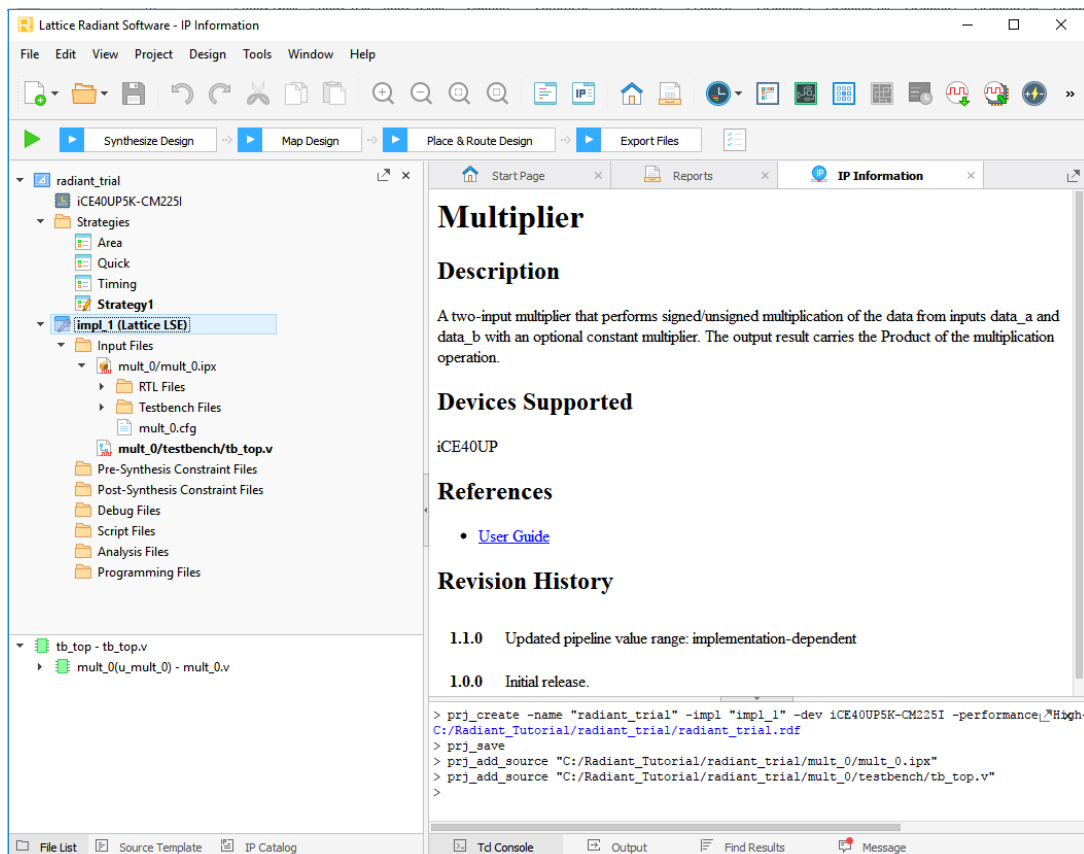

Figure 4.3. Top Level Testbench Instance Added to the Project
- Click **Add**. This adds the top level testbench to the project as shown in Figure 4.3 after opening.